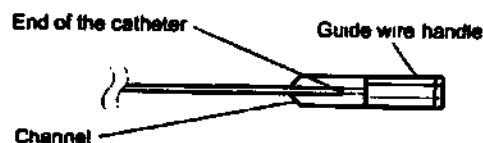

Figure 4. Catheter seated within the guide wire handle.
3. Confirm that the catheter is seated within the channel of the guide wire handle (Figure 4).